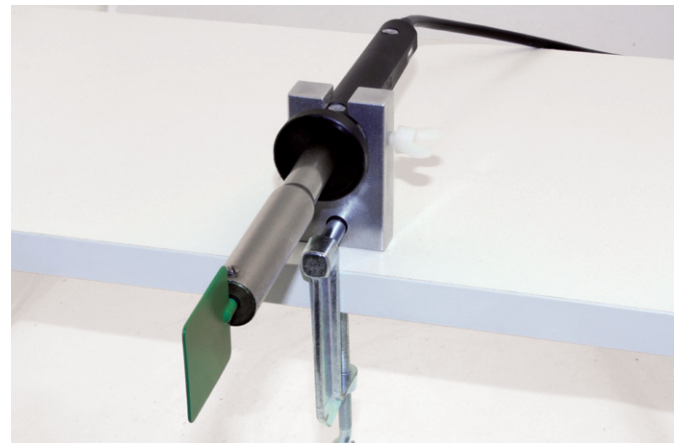

Fig. 2
- 2 Bolt the soldering iron holding device to a table, work bench or similar; secure the soldering iron with the welding bit mounted to it in such a way that the welding bit is vertical (Fig. 2).